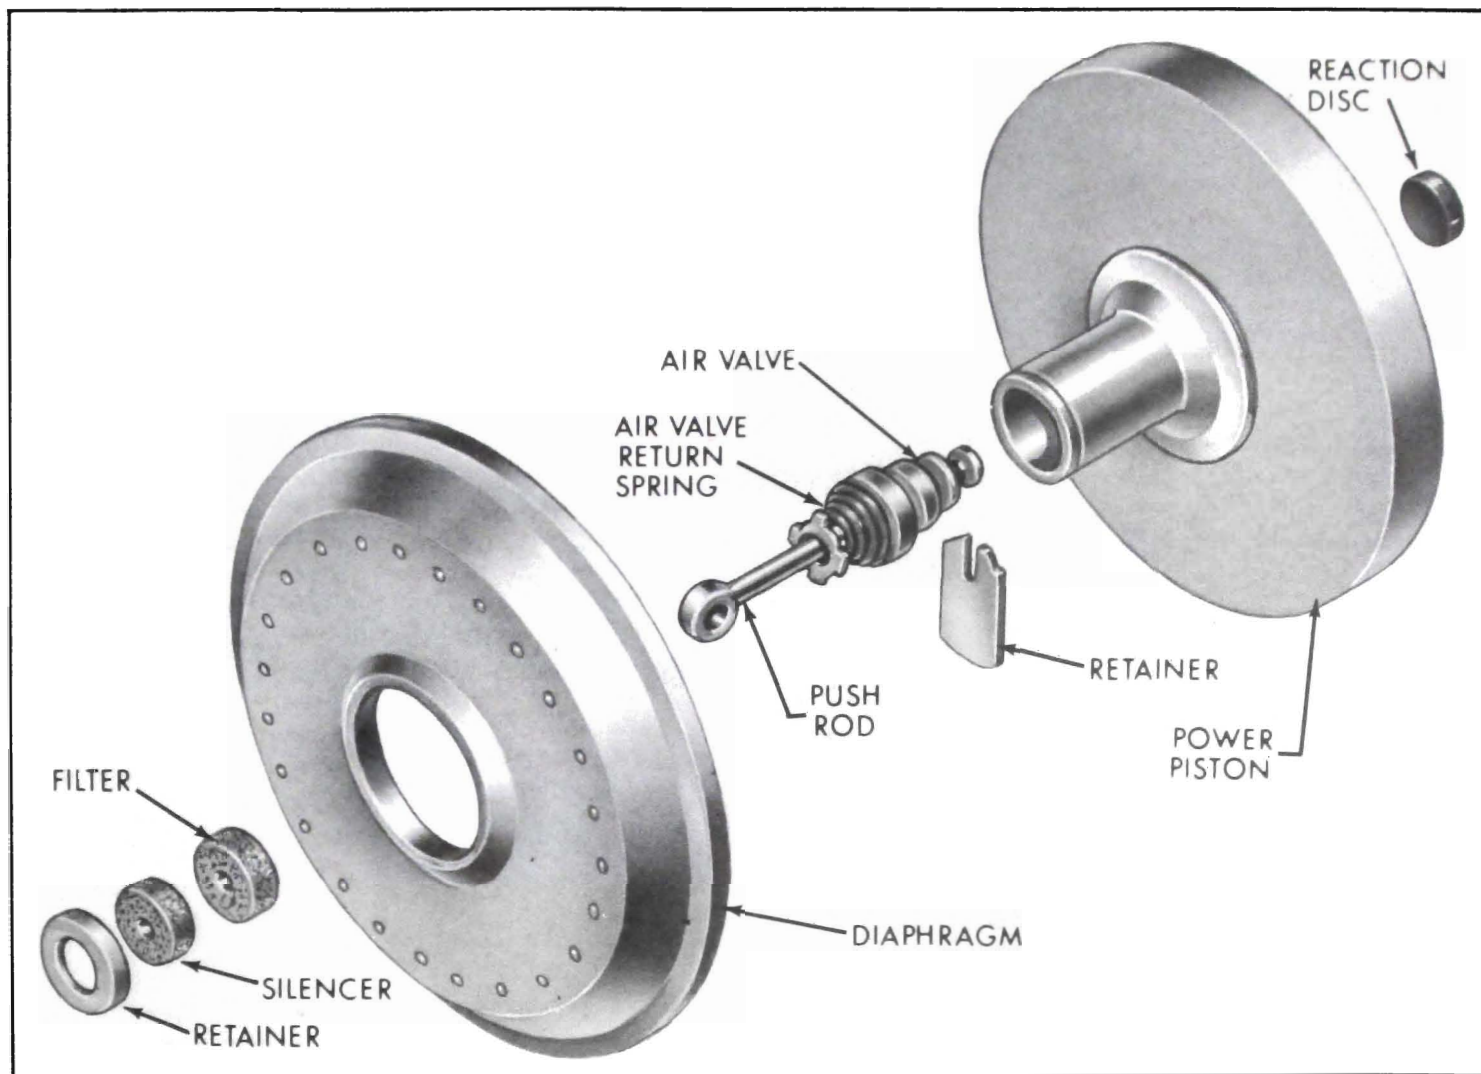

Figure 9-43—Removal of Air Filter, Diaphragm, Lock Key, Valve and Rod Assembly and Reaction Disc
7. From power piston, pry off filter retainer and remove air silencer with air filter from valve housing, being careful not to chip plastic housing. Remove diaphragm from power piston, then remove valve retainer lock key, valve and rod assembly. Press out reaction disc from diaphragm plate. See Figure 9-43.